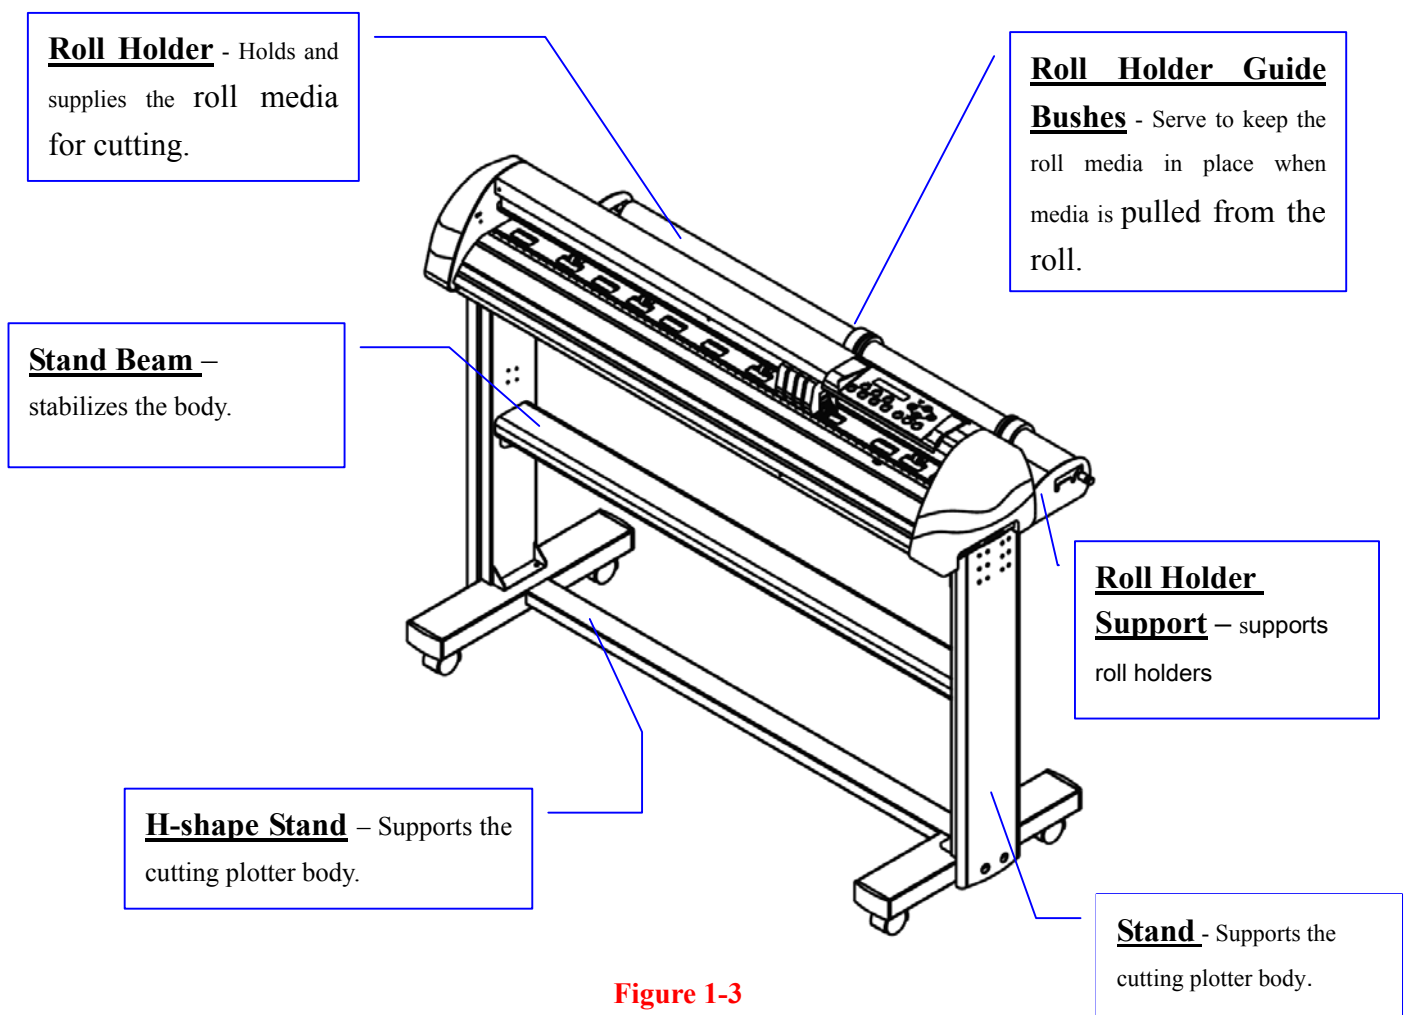

Figure 1-3
1.4 Whole View of Jaguar (Figure 1-3)